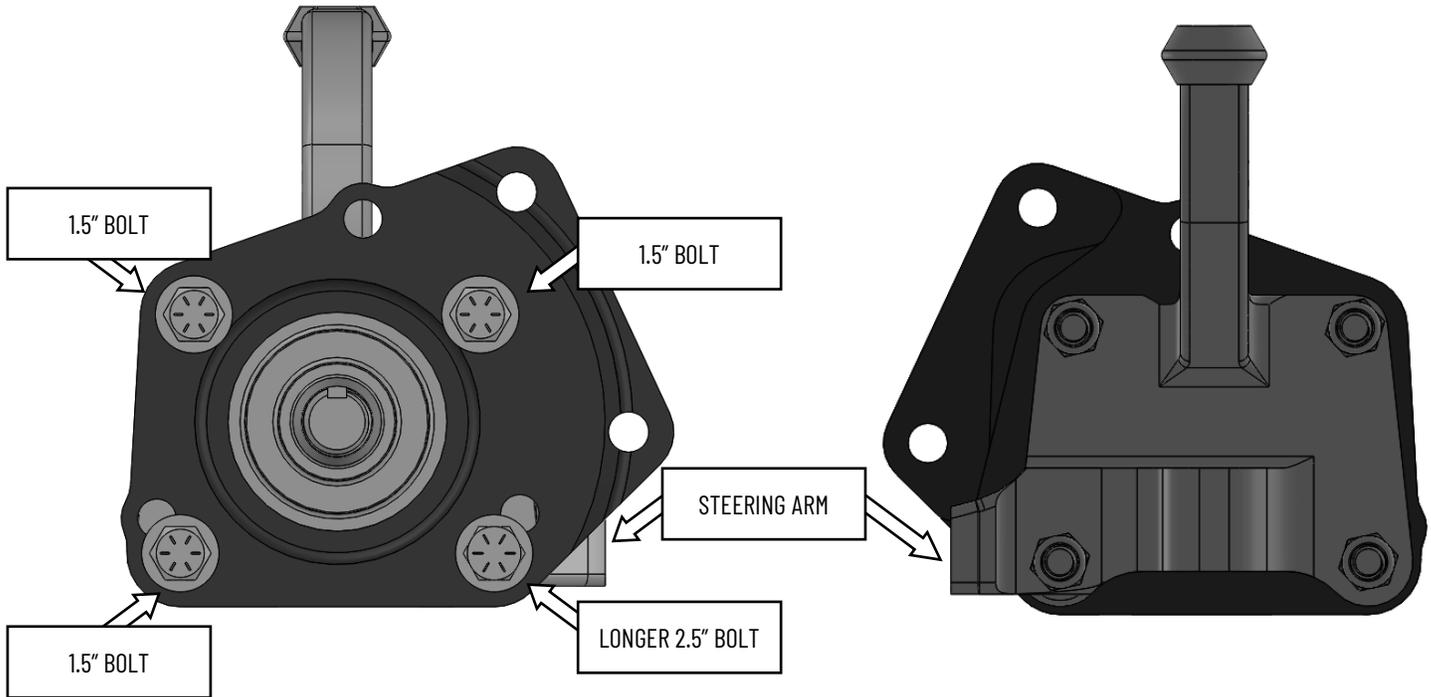

Figure 2. Base bracket installed
6. The caliper position will be behind the spindle pin centerline between the steering arm and upper ball joint upright. Install the base brackets to the spindle using the supplied 3/8-16 bolts, washers, and Nylock nuts. There are two different length bolts provided with this system the longer 2.5" bolt will be inserted in the steering arm hole closest to the tie rod attaching point. Torque hardware to 40 ft-lbs. to secure the base bracket to the spindle. See Figure 2 below for reference. The base brackets provided with this system begin with either 661 for the left (driver) side or 662 for the right (passenger) side of the vehicle.